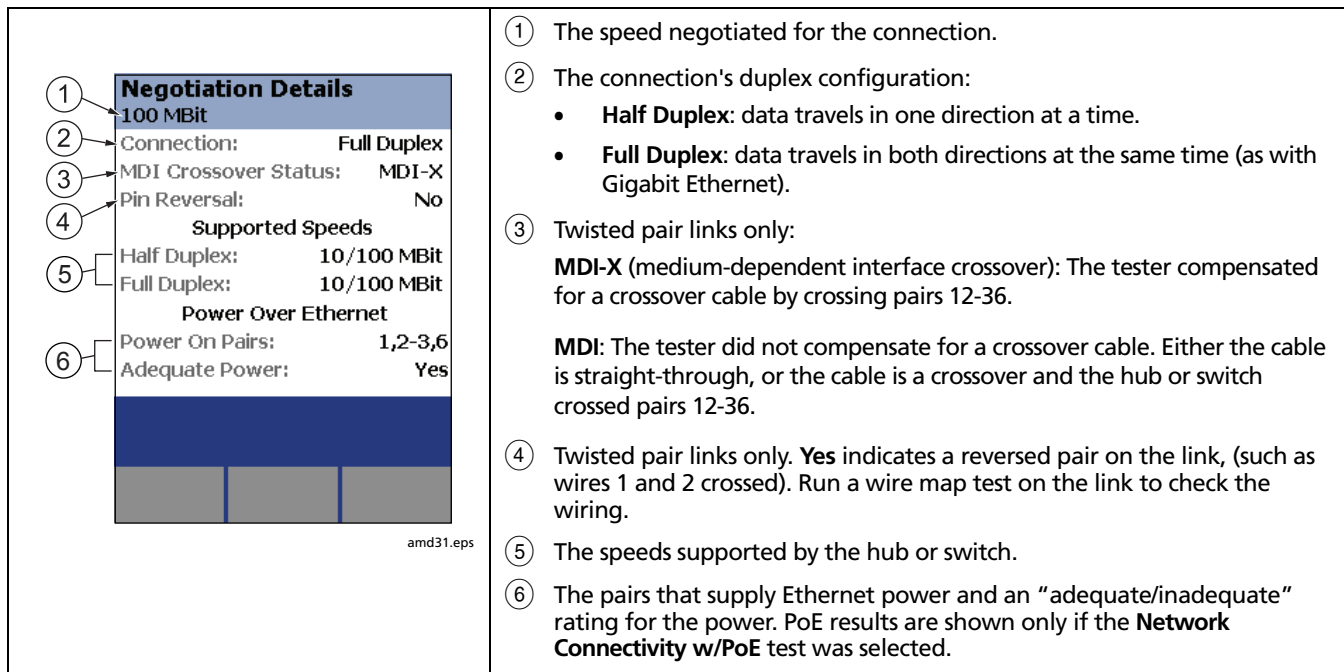
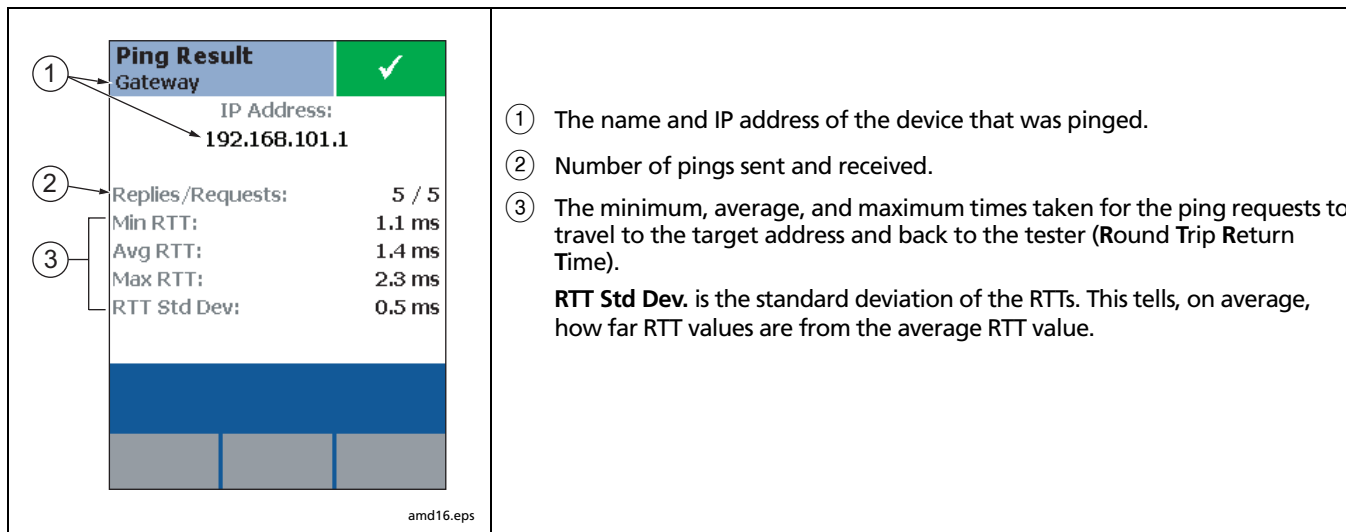

Figure 11-5. Negotiation Details (twisted pair results shown)
Figure 11-6. Ping Results Screen
<p>④ Select Negotiation Details to see details. See Figure 11-5. On the Negotiation Details screen, Yes for Pin Reversal indicates a reversed pair on the link, (such as wires 1 and 2 crossed). Run a wire map test on the link to check the wiring.</p> <p>⑤ Select DTX Address to see details, including the subnet mask.</p> <p>⑥ Network addresses used during the test:</p> <ul style="list-style-type: none"> • Gateway: Address of the network device that joins networks using different protocols or passes data between networks. • DHCP Server: Dynamic Host Configuration Protocol server address. Shown only in DHCP mode. • DNS Server: Domain Name System server address. • In DHCP mode, the addresses above show as 0.0.0.0 if the DHCP server does not provide them. • To see ping results for the above devices, highlight a device; then press ENTER. See Figure 11-6. 	<p>The checkmarks and Xs indicate how many replies the tester received to its three pings:</p> <ul style="list-style-type: none"> ✓ Green: Ping replies received for all requests. ✓ Orange: At least one ping reply received. ✗ No ping replies received, indicating a problem with the connection. <p>⑦ <Target Address name>: appears if you use F3 Ping to ping a device. See "Pinging Network Devices" on page 11-11.</p> <p>⑧ See "Monitoring Network Traffic" on page 11-13 and "Blinking a Port Light" on page 11-15.</p> <p>⑨ Press F3 Ping to ping devices. See "Entering Ping Addresses" on page 11-11- and "Pinging Network Devices" on page 11-11-.</p>
- 6 To see ping details (Figure 11-6), highlight a device; then press **ENTER**.